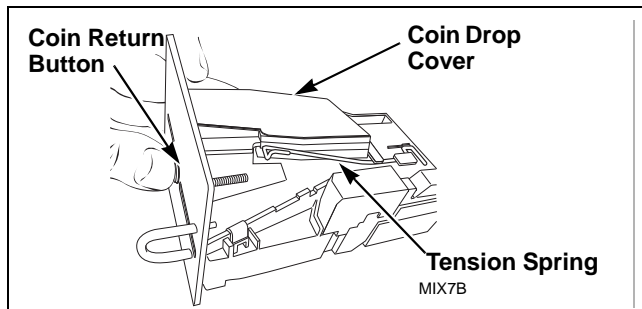
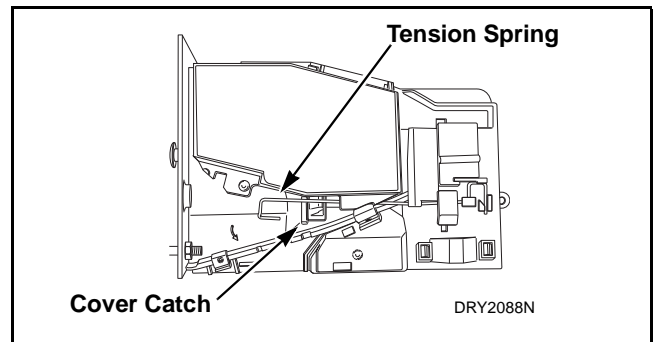
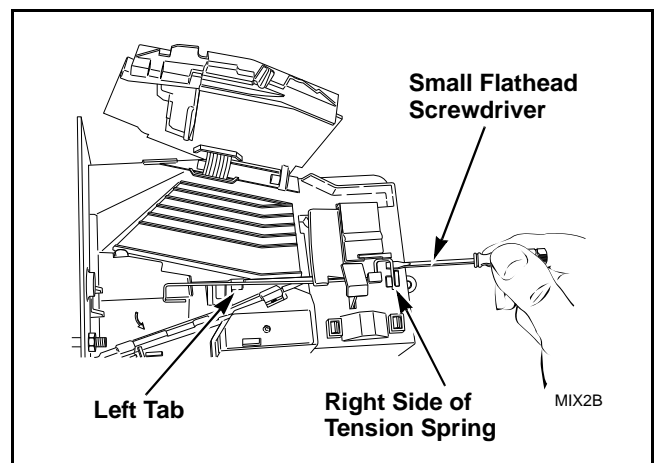

Figure 2
Figure 4
Figure 5
- (1) Clean coin drop. Refer to *Paragraph 59*.
- (2) On electronic coin drops with an old-style tension spring (shown in *Figure 2* and *Figure 4*), test and replace tension spring using the following instructions.
- (1) Push coin return button to open and close coin drop cover to clear possible coin jams. Refer to *Figure 2*.
- (1) Move tension spring downward until cover catch is free. Refer to *Figure 4*.
- (2) Open cover for coin drop.
- (3) Place a small flathead screwdriver under right side of tension spring and lift up. Refer to *Figure 5*.
- (4) Use screwdriver to move spring approximately 3 mm to left.
- (5) Lift spring over left tab. Refer to *Figure 5*.
- (13) Lift spring gently to place in position under left tab.
(14) Push spring to right until it snaps into position. Refer to *Figure 5*.
(15) Close coin drop cover.
(16) Move tension spring over cover catch. Refer to *Figure 4*.